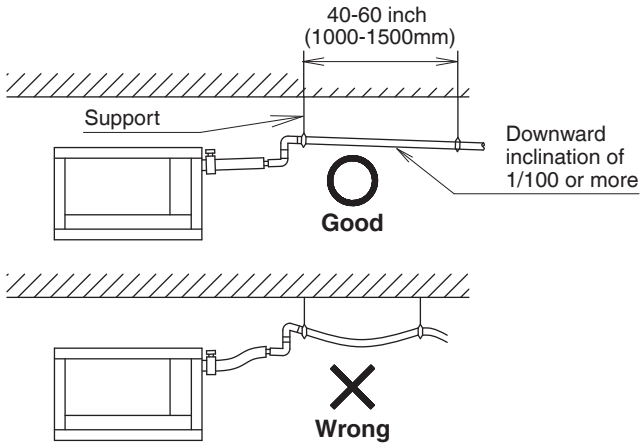

Fig. 12
- Install the drain piping as short as possible with downward inclination of 1/100 or more and without such that air may not stagnate. **(Refer to Fig. 12)** (It may cause abnormal sound such as bubbling noise.)
- Install supports at a distance of 40 to 60 inch (1000 to 1500mm) so that the piping may not deflect. **(Refer to Fig. 12)**
- Make sure to use the attached drain hose (2) and the clamp metal (1). Insert the drain hose (2) into the drain socket up to the point where the socket diameter becomes larger. Put the clamp metal (1) to the taped hose end and tighten the clamp metal (1) with torque 10.6~13.3lbf • ft (120~150 N•cm).